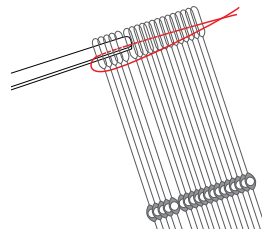

FIGURE 7: SLIDING HEDDLES ONTO HEDDLE BAR
13. Slide each group of heddles onto a pair of heddle bars (Figure 7). To make threading easier, it is important to orient the heddles in the same direction on each pair of heddle bars.